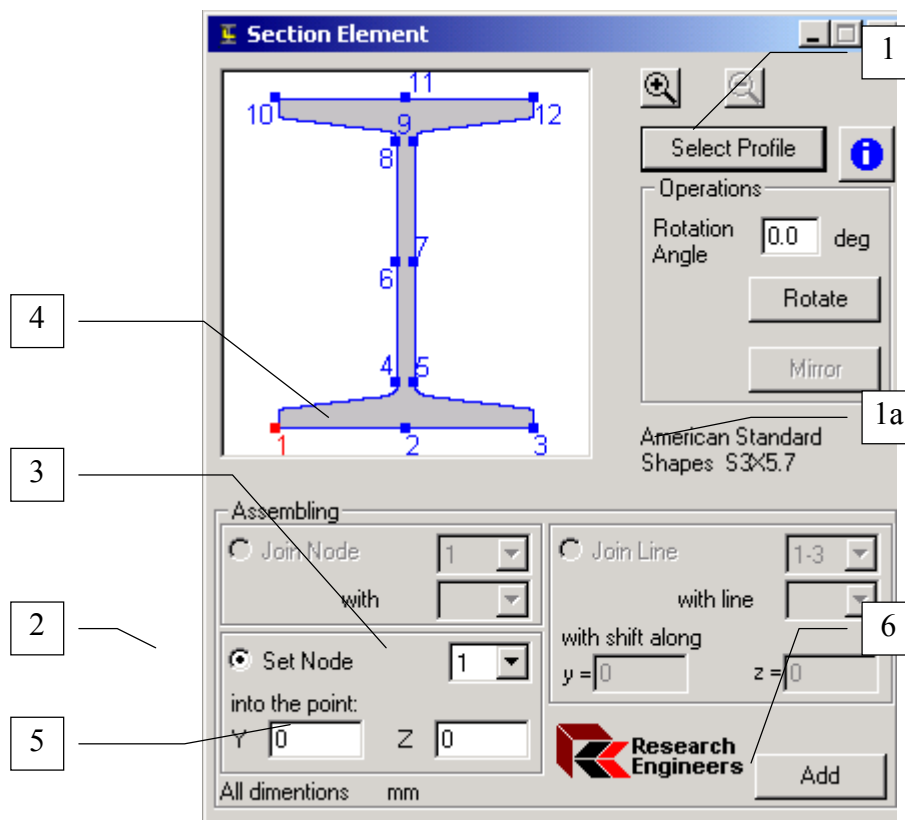

Fig. 35. Sequence of actions for setting the first node of a section
- ↪ [1] specify the first element of the designed section in the Section Element dialog box (Fig. 35), e.g. American Standard Shapes S3×5.7 [1a];
After the last operation has been performed, the positioned structural section will be shown in the working area of the **Section Builder** window. Simultaneously, in the bottom of the **Section Builder** window, the positioned structural section will be shown with the assembly history table where the section will be listed in the first row (Fig. 35).